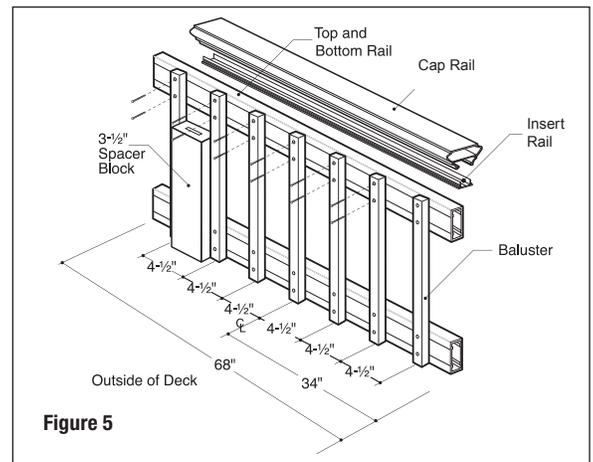

Figure 5
**Traditional, Baroque and Arc balusters:** Both top and bottom rails will be installed with the pre-drilled holes facing down to prevent water from collecting in the rail. Maximum 4-1/2" on-center and equal spacing for the end spacing. Start by finding the center of the rail. Rail length ÷ 2 = center of rail. Start the first aluminum baluster on-center of the center line. Mark every 4-1/2" from this line to each end. This will leave the end spacing less than 4" on both ends and require 15 aluminum balusters (**Figure 5**). Tip: Use a piece of 2x4 (3-1/2" actual) as a spacer block for the spacing between balusters.
**Glass balusters:** Both top and bottom rails will be installed with the pre-drilled holes facing down to prevent water from collecting in the rail. 7-1/2" on-center and equal spacing for the end spacing. Start by finding the center of the rail. Rail length ÷ 2 = center of rail. Start the first glass baluster on-center of the center line. Mark every 7-1/2" from the center line to each end. This will leave the end spacing 4" or less on both ends and require nine glass balusters. If installing using connectors, attach connectors to both rails on marked locations. Tip: If face-mounting to rail, use a piece of 2x4 (3-1/2" actual) as a spacer block for the spacing between balusters (**Figure 5**).
**Step 12 Traditional, Baroque, Arc balusters; and Face-Mount Glass balusters:** Start the first baluster on-center of the center of the rail and work out to each end. Using the baluster as a guide, drill 9/64" holes in the rails at each baluster location. Use a 2x4 as a spacer block to space the next baluster. Working toward the ends, drill and attach each baluster with the screws provided (Figures 5 & 6).